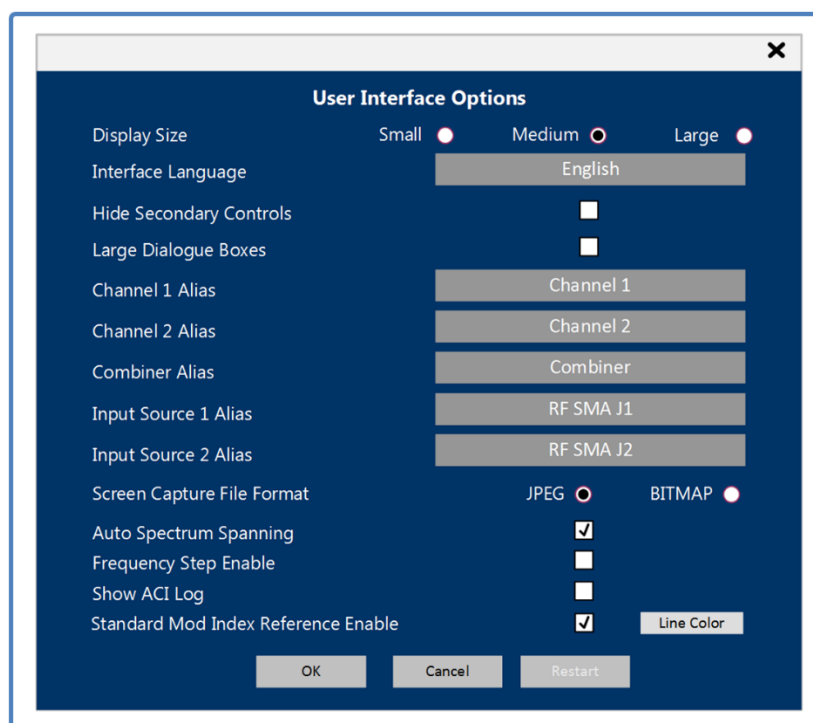

Figure 4-12 Options – User Interface Dialog Window
- iii. *User Interface* – The LS-28-DRSM user interface has several controls that apply generically to the entire application. These are shown in the Figure 4-12.